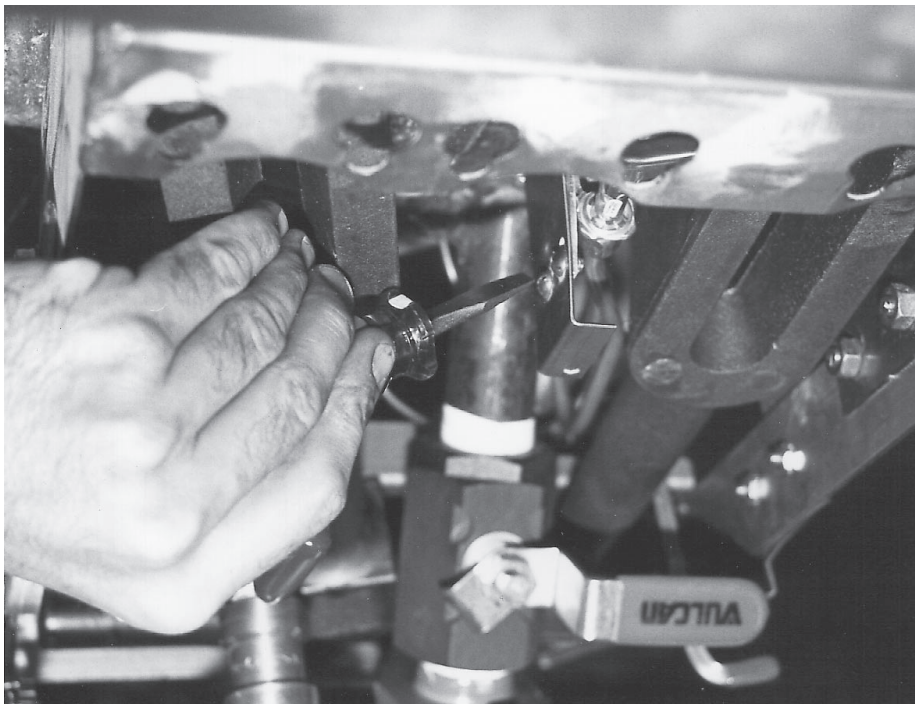

Fig. 80
18. With flat blade screwdriver remove the pilot bracket. (Fig. 80)